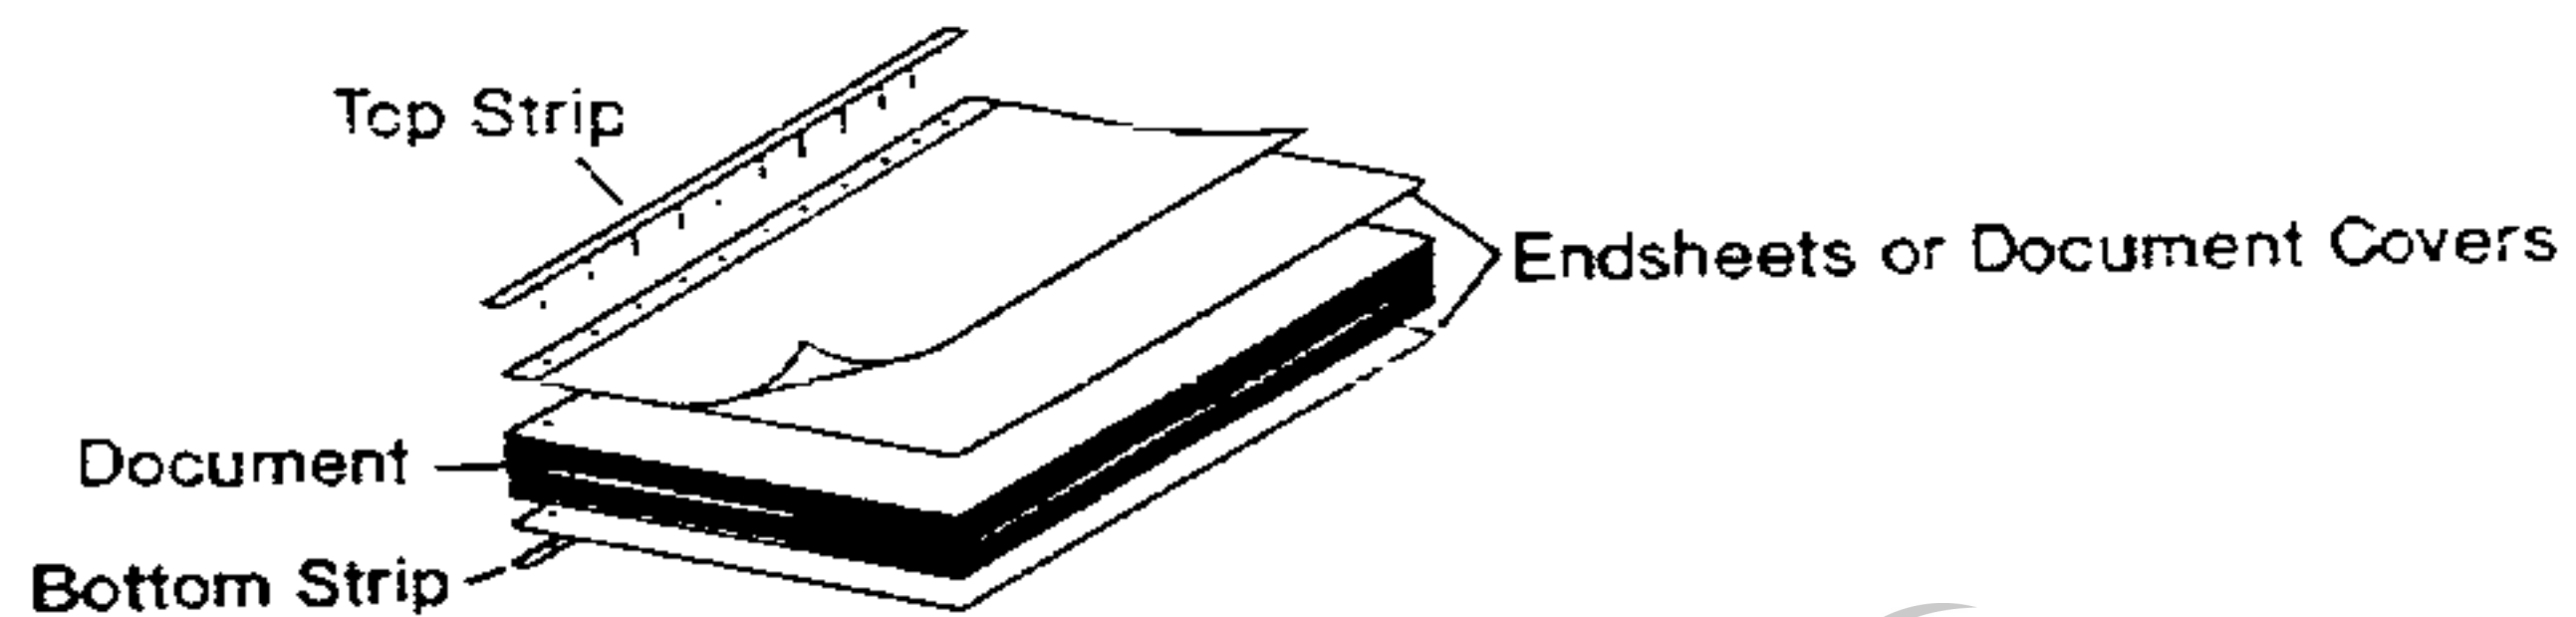

Figure 4-3
3. The maximum binding capacity of the machine is 3 inches. If document is to be enclosed in a soft cover, the front and back covers must be assembled as shown in Figure 4-3, and bound into the document at this time. If document is to be enclosed in a hard cover, VeloBind endsheets must be bound into the document at this time. The endsheets are placed on the front and back of the document with the printed release paper facing out, and the plain white sides facing the first and last sheets of the document. (The hard cover will be attached to the document after the binding is completed.)